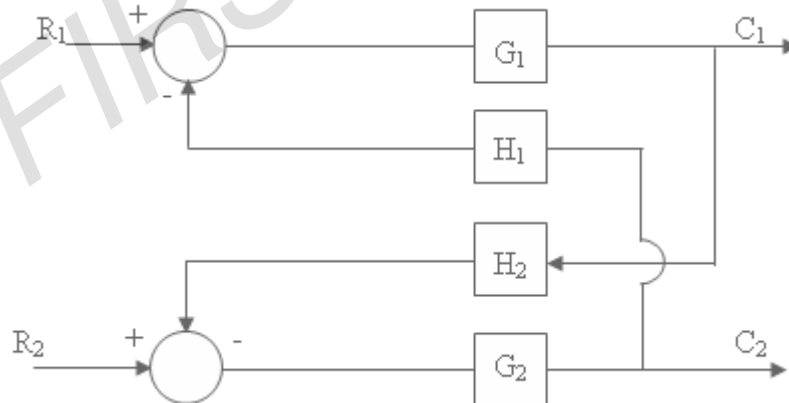

Figure 2:
8. (a) Determine the Transfer Functions  $\frac{C_1}{R_1}$ ,  $\frac{C_2}{R_2}$  and  $\frac{C_2}{R_1}$  for the following block diagram shown in figure 2.